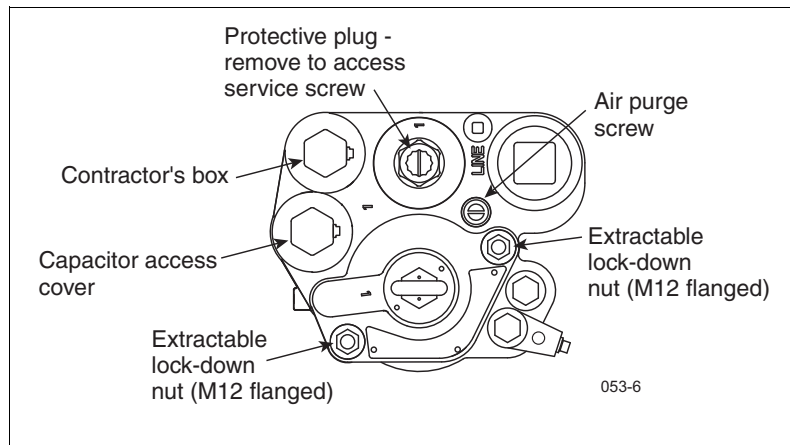

Figure 2. Extractable Lock-Down Nuts
2. Remove the two extractable lock-down nuts and discard them (see Figure 2). The springs on the lock-down studs between the extractable's flange and the manifold will push the extractable up, breaking the seals.
15. Turn the air purge screw 2 - 3 turns counterclockwise (see Figure 2).